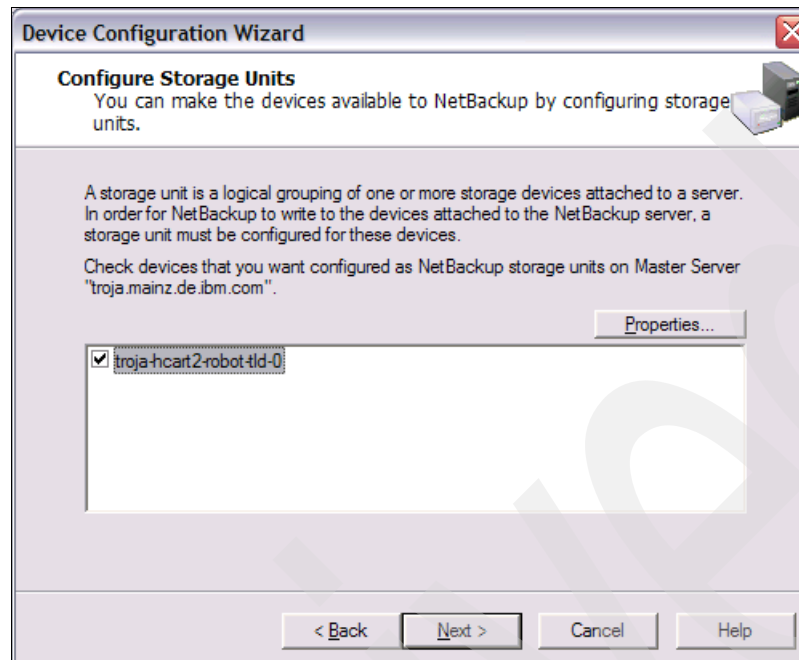

Figure 10-13 NetBackup device configuration
5. The next panel (Figure 10-13) gives us the possibility to change the library name. Click the **Properties** button.